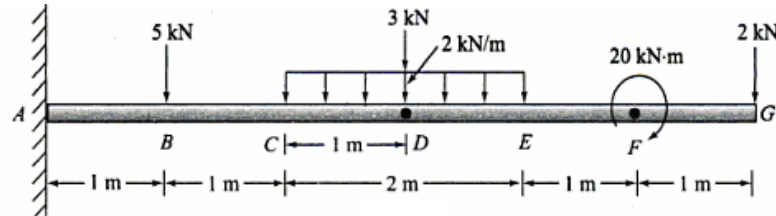

Fig.4
- 6 Draw the shear force and bending moment diagrams for the beam shown in Fig.4 15